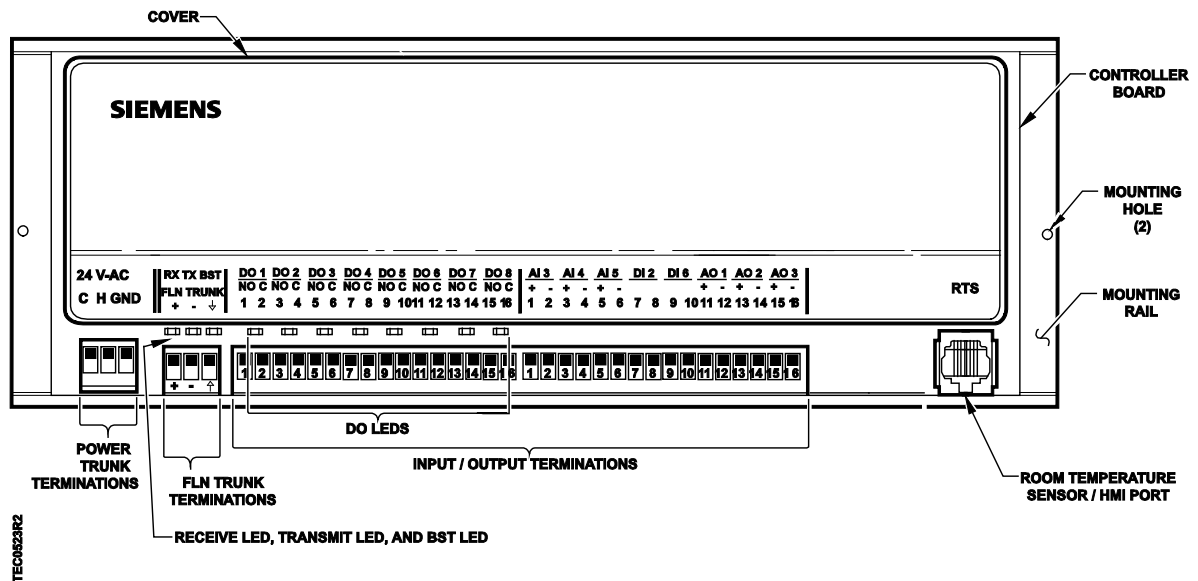

Figure 1. BACnet PTEC Unit Conditioner/Fan Coil Controller.
1. Secure the mounting rail (Figure 1) in the controller's desired location.
6. Plug the room temperature sensor cable into the RTS port (Figure 1).